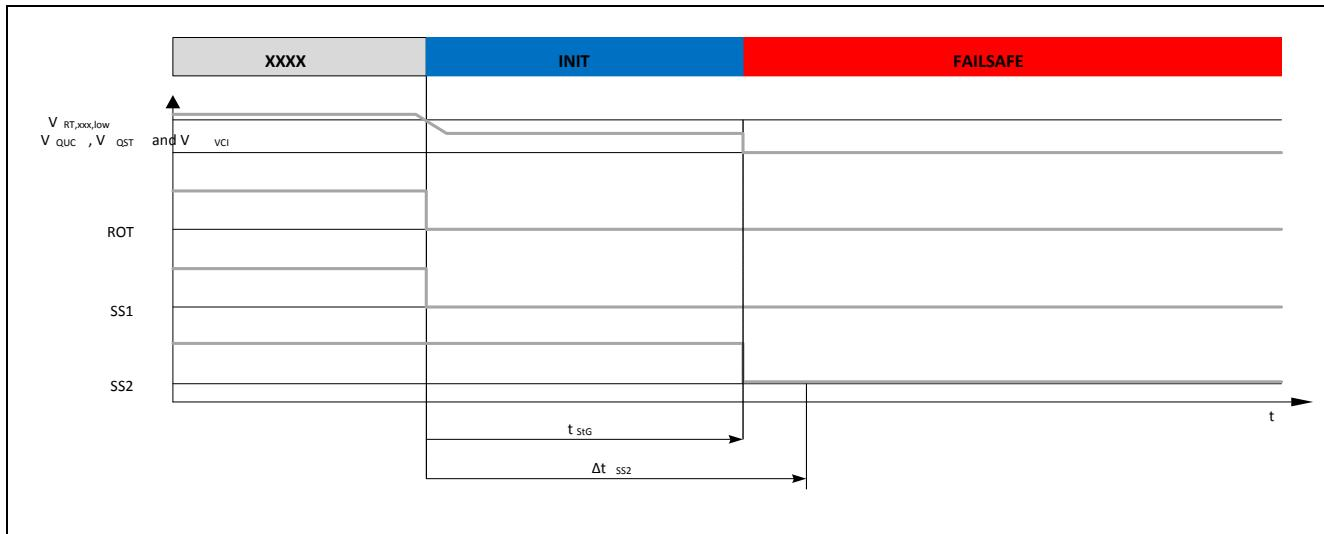

Figure52 Transition from XXXX to INIT to FAILSAFE state after detection of short to ground
- The detection of a short to ground of the μ C related voltages V_{QUC} , V_{QST} or V_{VCI} as shown in the Figure 52 will first be detected as an under voltage event and move the device from NORMAL state to INIT state. After the short to ground detection time t_{SIG} the device will then move from INIT state to FAILSAFE state (please refer to transition from INIT state to FAILSAFE state).
- The detection of a short to ground of the μ C related voltages V_{QUC} , V_{QST} or V_{VCI} as shown in the **Figure 52** will first be detected as an under voltage event and move the device from STANDBY state to INIT state. After the short to ground detection time t_{SIG} the device will then move from INIT state to FAILSAFE state (please refer to transition from INIT state to FAILSAFE state).
- The detection of a short to ground of the μ C related voltages V_{QUC} , V_{QST} or V_{VCI} as shown in the Figure 52 will first be detected as an under voltage event and move the device from SLEEP state to INIT state. After the short to ground detection time t_{S1G} the device will then move from INIT state to FAILSAFE state (please refer to transition from INIT state to FAILSAFE state).
- The detection of a short to ground of the μ C related voltages V_{QUC} , V_{QST} or V_{VCI} as shown in the Figure 52 will first be detected as an under voltage event and move the device from WAKE state to INIT state. After the short to ground detection time t_{SG} the device will then move from INIT state to FAILSAFE state (please refer to transition from INIT state to FAILSAFE state).